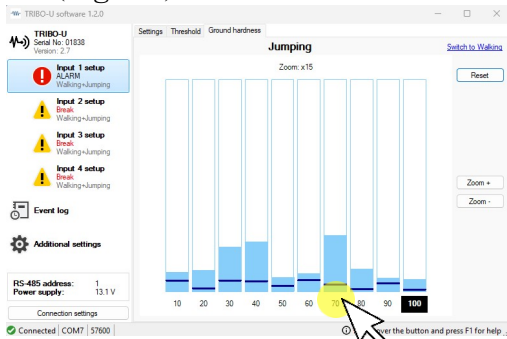

Fig. 31
- Select the highest column in the histogram, click the number below the highest column. (Fig. 31)